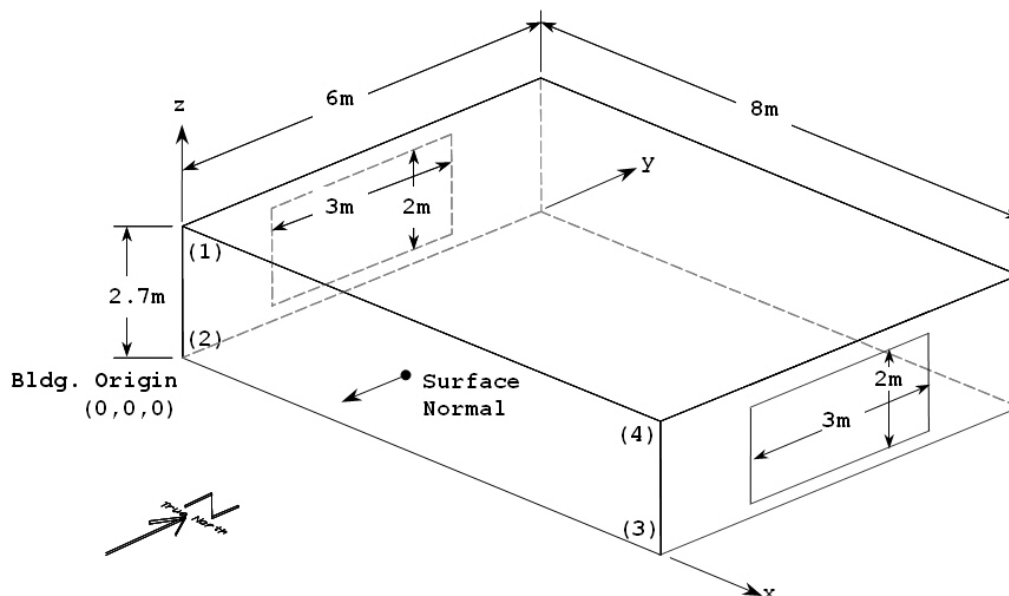

Figure 11. Schematic for Exercise 1
- 5) Add the east window (3m wide by 2m high, centered on wall, *see the drawing in Figure 11 to determine coordinates*):
- Vertex coordinates = *as determined from the drawing Figure 11*. Coordinates in this input are in World Coordinates (all relative to the global origin of 0,0,0). Coordinates are specified as viewed from the outside of the surface, using the rules specified in the SurfaceGeometry object.